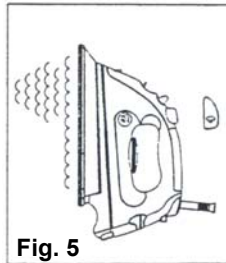

Fig. 5
- For vertical steam, press the burst of steam button while holding the iron in a vertical position. See figure 5. The vertical steam function is useful for steaming curtains and drapes while still hanging.